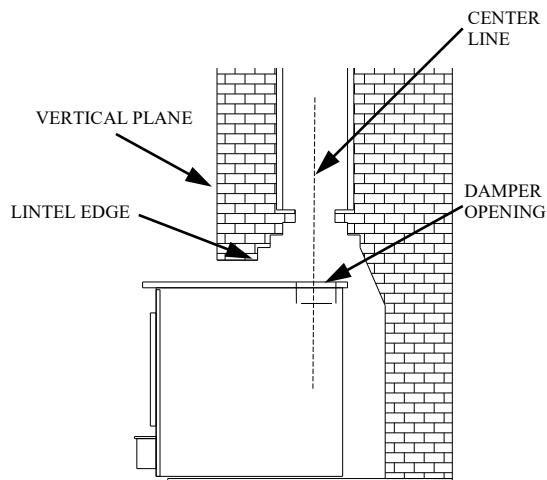

FIGURE 8 POSITIONING
When positioning heater, the following conditions **MUST** be met! (See Figure 8.)
1. The front of damper opening must be positioned **BEHIND** back edge of lintel to ensure proper draft. (See Figure 8.)